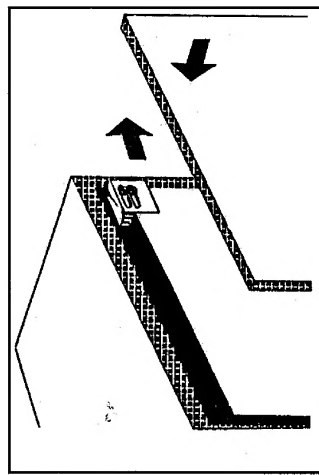

Fig. 6
9. Apply the panel to the door passing the head of the screw through the special slotted holes of the adjusters. It is easier to first insert the lower screw and then the upper screw (see Fig. 6).
10. Open the door and the panel to the maximum position. Slightly tighten the upper hinge adjuster screw and, keeping the door open at maximum position, with one hand let the screws slide in the slots until the vertical corner of the panel is almost against the vertical wall of the unit (see Fig. 6).